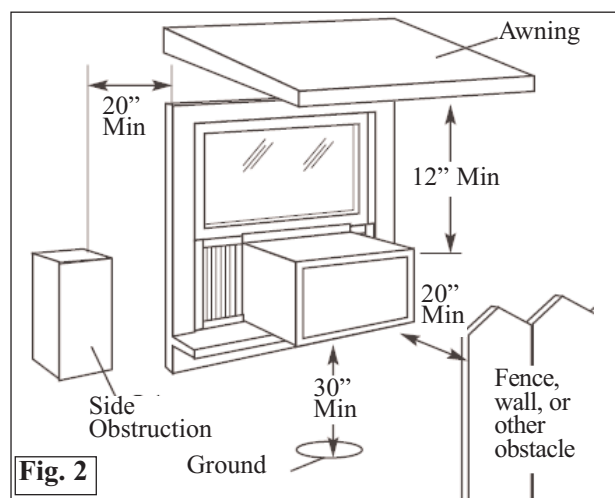

Fig. 2
- D) Provide sufficient clearance around the cabinet to allow for ample air circulation through the unit (See Fig. 2). The rear of the unit should be outdoors and not in a garage nor inside a building. Keep unit as far away as possible from obstacles/obstructions and at least 30" above the floor or ground. Curtains and other objects within a room should be prevented from blocking the air flow.